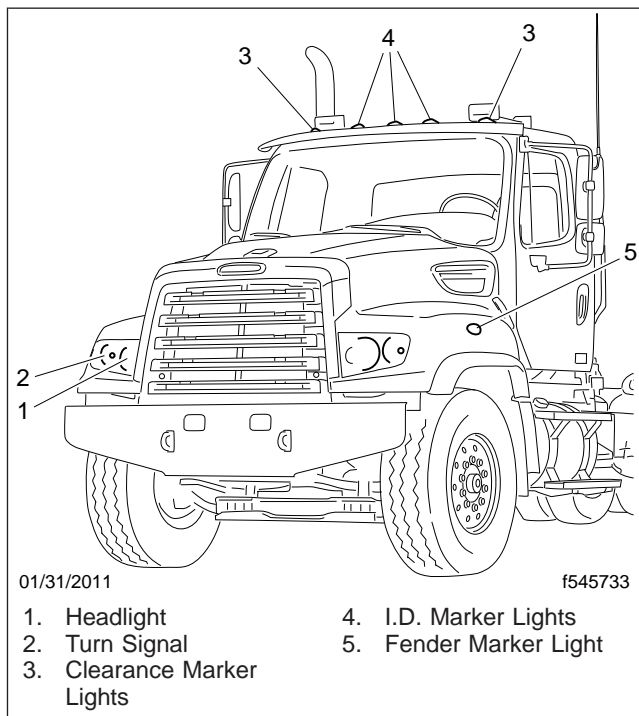

Fig. 21.8, Exterior Lights
12. Check the operation of all exterior lights. See **Fig. 21.8**.